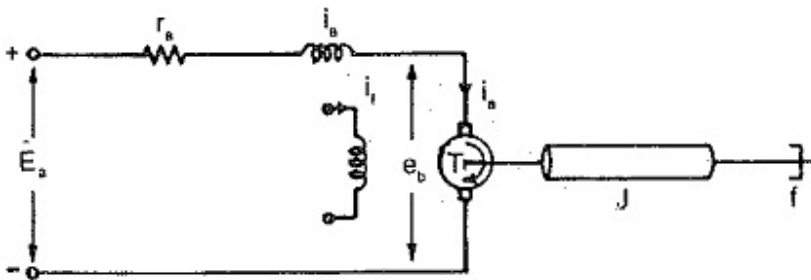

Fig. 6.7 Armature controlled dc motor
**Ans:** The speed of a dc motor can be controlled by varying the voltage applied to the armature of a dc motor. A separately excited dc motor with variable armature voltage finds application as a drive motor in a variable speed drive. The variable armature voltage is provided by a phase controlled rectifier. The schematic of an Armature controlled DC Motor is shown in Fig. 6.7.